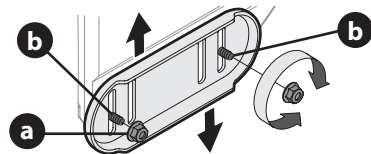

Figure 47
- Loosen four hex nuts (a) (two on each side) and carriage bolts (b). Move skid shoes to desired position (Figure 47).
**NOTE:** The skid shoes on your snow blower may look slightly different (and have different hardware) than ones shown in Figure 47.